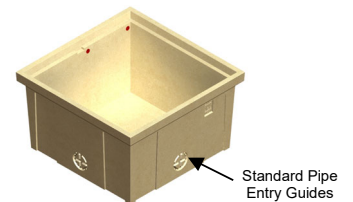

Figure 1
1. Mark all pipe entries on the pit and/or riser walls or use the preformed standard pipe entry guides/plastic inserts on the pit walls as a guide (Figure 1 & 2).